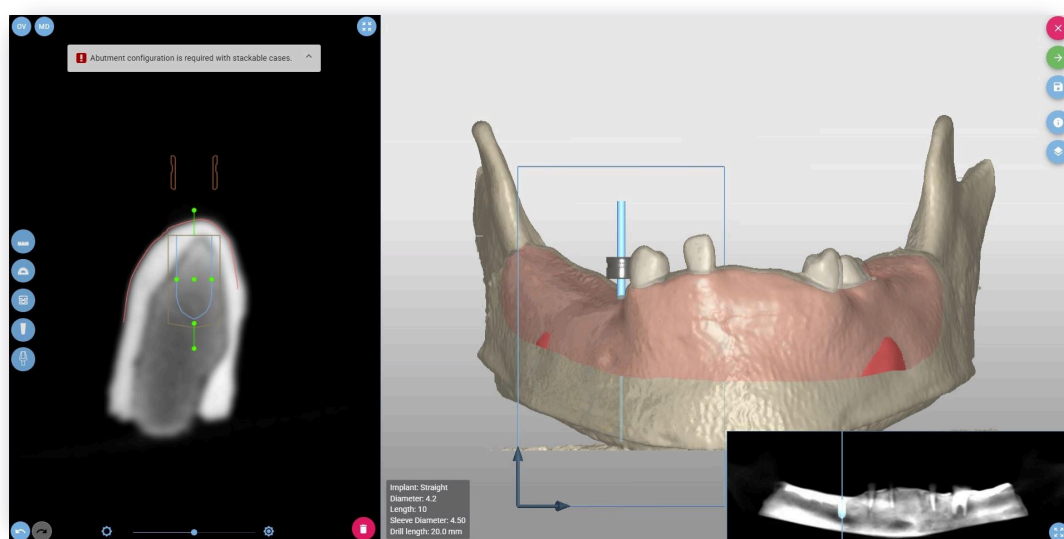

Figure 54: Abutment configuration is required with stackable cases.
- In a stackable guide case, no prosthetic abutment has been configured for the implant (Figure 54).